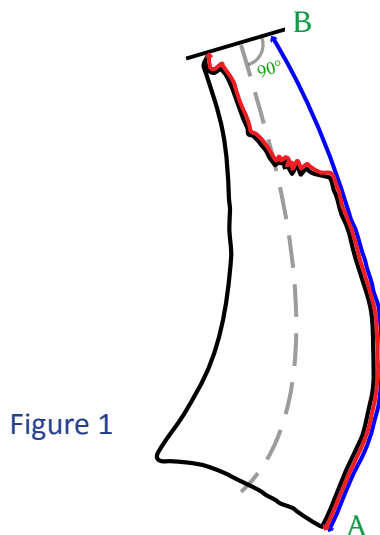
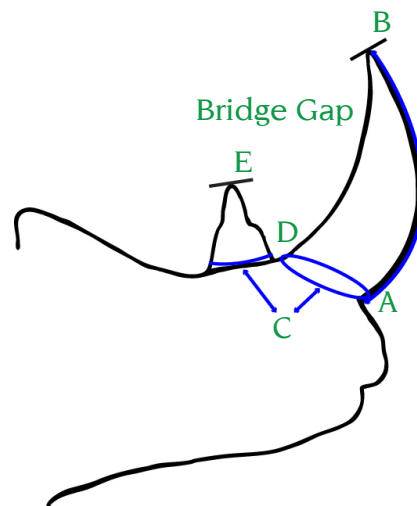

Figure 1
Figure 2
1. Length. Measure the length on the front curve of each horn from the base to the tip. (Figure 2, A–B & D–E) In case the horn has an injury or a piece missing, the tape measure must bridge such gaps and must not be pushed into the depressions. (See Figure 2, rear horn, D–E) Rhinos often have broken horn tips, and they must be carded off at the tip. (Figure 1). Do not follow the uneven broken area with the tape to get a length that would be longer than if a line of measurement was followed as though the horn were intact.
2. Circumference. Measure the circumference around the base of each horn. (Figure 2, C) Most rhino horns will not have an even end like a piece of water pipe cut off at a 90-degree angle. Thus, the temptation is to follow the uneven edges of the horn along (wave the tape measure), which will result in a very much higher score for the circumference. This is wrong. As with the measurements of antelope horns, the circumference must only measure horn, not skin. The tape measure must form one continuous circle. Do not follow the uneven edge of the horn.